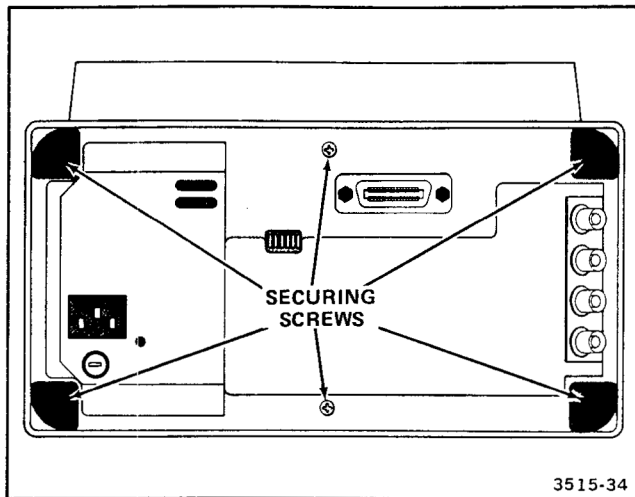

Figure 5-4. Removing the wrap-around cabinet.
4. Remove six screws (indicated in Figure 5-4) holding the rear cabinet frame and remove the frame with feet and screws from the instrument as an assembly.